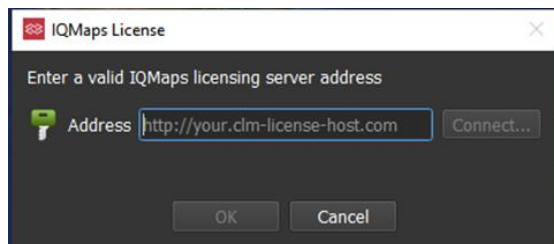

Fig. 8 IQMaps server license window
6. Start ***IQMaps*** by pressing the icon  to activate (FIRST START ONLY) the Server License window (Fig. 8),